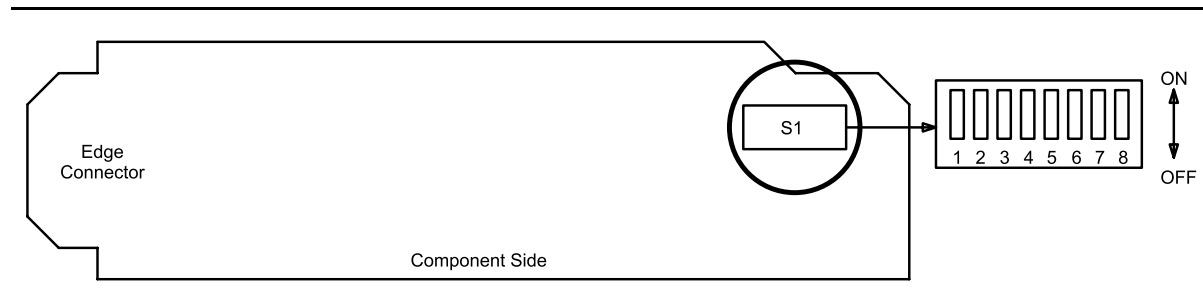

Figure 1 – DS1/DS1PM Option Settings
Refer to Table B and Figure 1 and set the line code option switches, if required.
7. Refer to Figure 1 and Table A and set LBO option switches on protection **DS1/DS1PM** circuit pack.